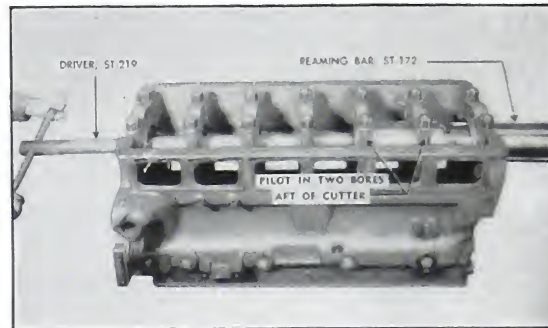

Fig. 2-21. Reaming main bearing bore
8. Use a special hand driver, ST-219, to turn the reamer. This driver is loosely pinned to prevent up and down or side thrust of the reamer while it is being turned. See Fig. 2-21.